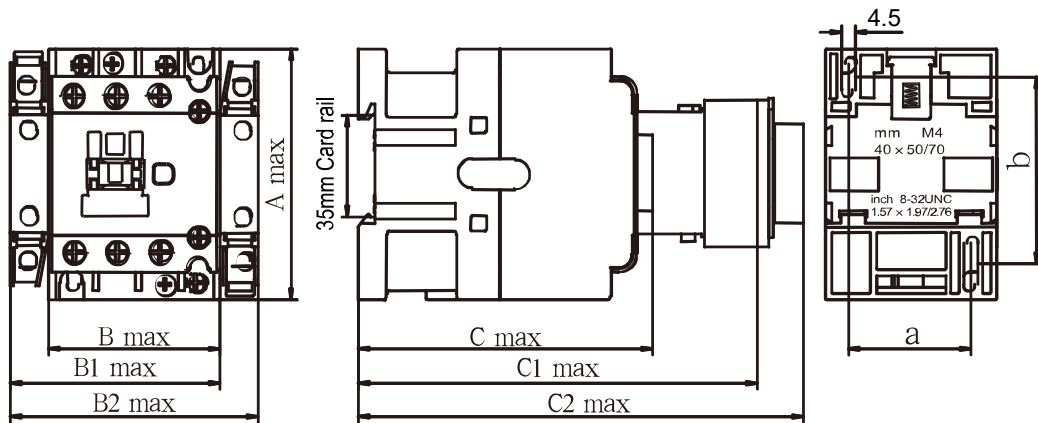

Figure 5 HDCK-09~38
- Refer to Figures 5 and 6 and Table 3 for the contactor dimensions and mounting dimensions.